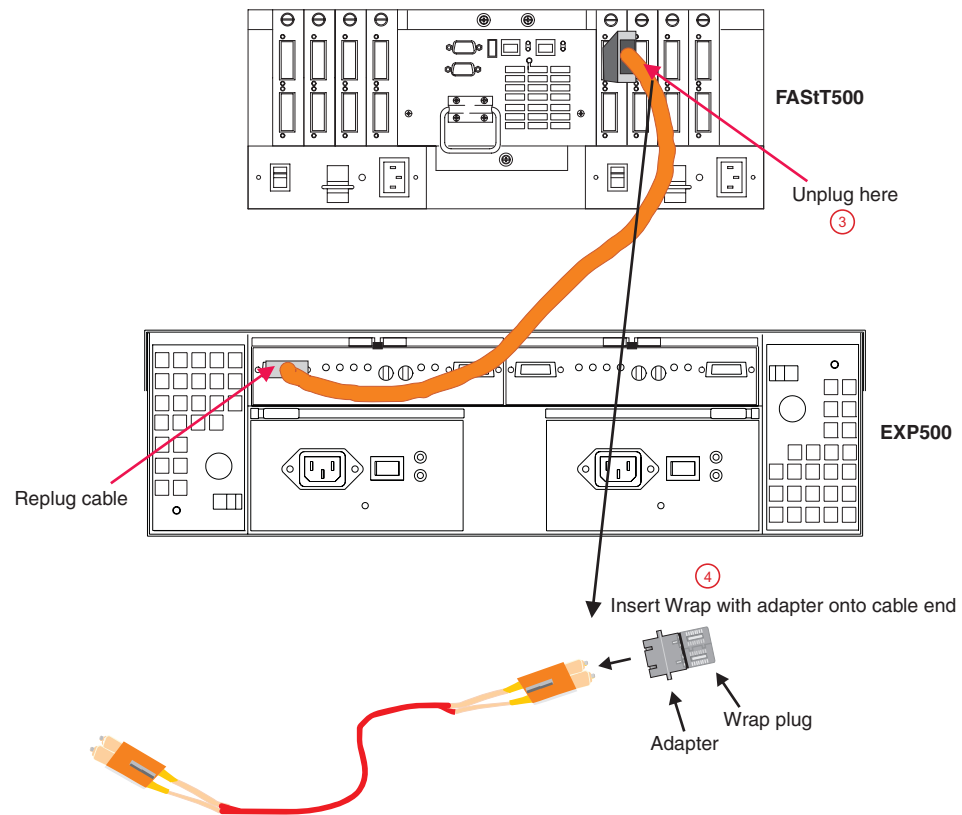

Figure 158. Insert wrap plug with adapter on cable end
4. Insert a wrap plug with an adapter onto the cable end. See Figure 158 on page 326.